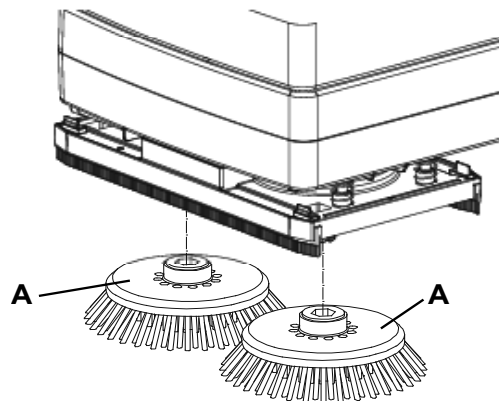

Figure 2
The machine is supplied with two brushes (A, Fig. 2) installed. According to the type of floor to be cleaned, the brushes can be replaced.
1. Lift the machine by prying the handlebar (2).
2. Install the brushes (A, Fig. 2) in the 2 hubs of the deck (9).
3. Lower the machine by using the handlebar (2).